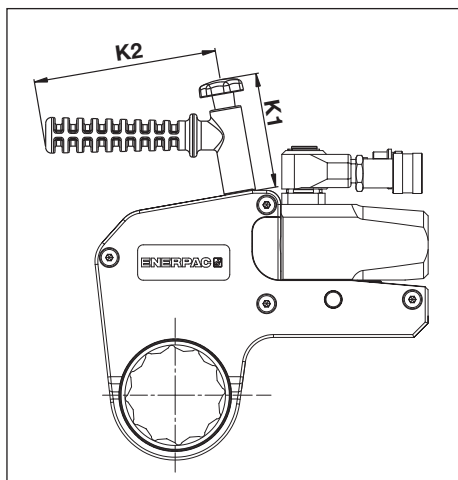

Fig. 26
6.1.4 Dimensions, SWH Series Angled Positioning Handle (Fig. 26 - Optional Accessory)